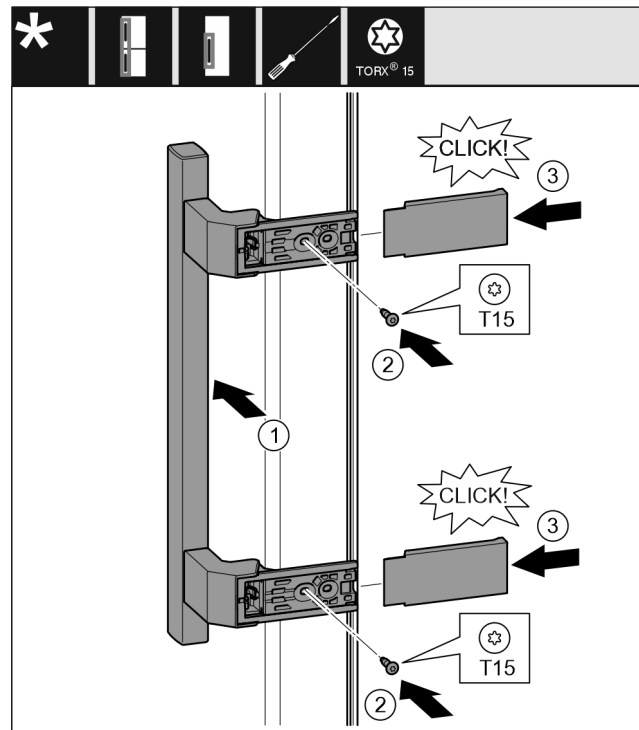

Fig. 17
- Position the handle on the opposite side. Fig. 17 (1)
- Tighten the screws using the T15 screwdriver. Fig. 17 (2)
- Position the covers on the side and push them on. Fig. 17 (3)